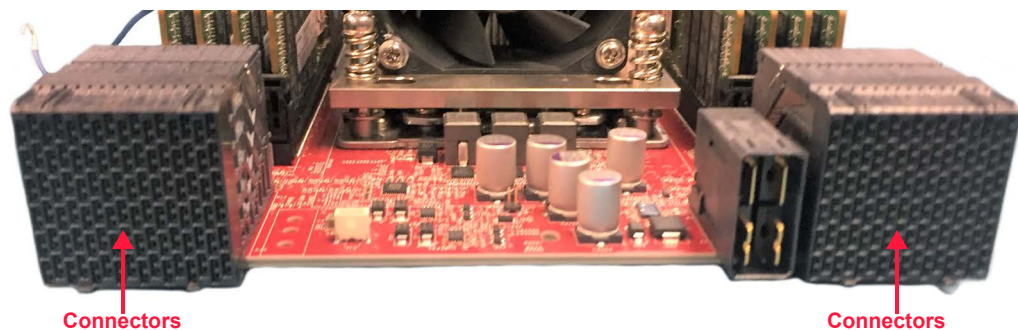

Figure 2.18 Server module connectors
1. Become familiar with the server module connectors. The connectors must align properly so that the module smoothly inserts into the I/O option slot on the rear of the enclosure. Refer to Figure 2.18 for a close-up view of the server module connectors.